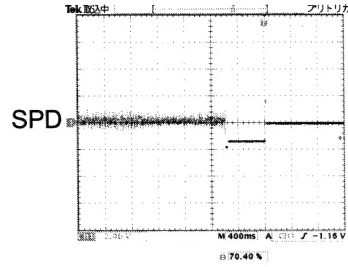

**Fig. 6 In "04 t on"**
- \* Monitor HF signal using the Test Point, HF point and VC point. Check that the signal's amplitude is  $1.5V \pm 0.3V_{p-p}$ . (Refer to Fig. 6)